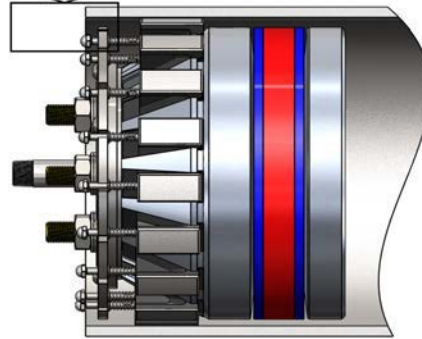

Figure 7: Sizes 10" and above GripSafe ST Plug and Pipe Concentricity
- For NPS 10" plugs and above, the max clearance between the plugs outer diameter and pipe's inner diameter is .500". Use any type of measuring device to measure the clearance or use the Concentricity Gauge (sold separately) to measure the gap (see Figure 7 below). Repositioning the plug is required if the gap is greater than .500". If the gap is less than .500", then the plug is within the concentricity criteria; proceed to the next step. To help with plug's concentricity, see **Note** on following page.